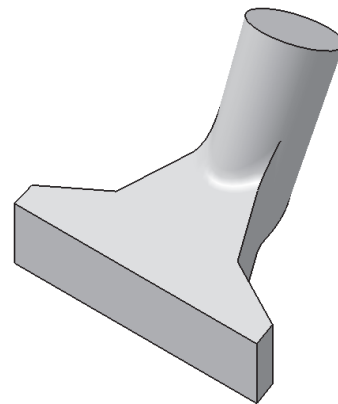

Figure 6-82 The model after creating the fillet
3. Choose the **OK** button from the **Edge Fillet Definition** dialog box. The model, after creating the first set of fillet, is shown in Figure 6-82.